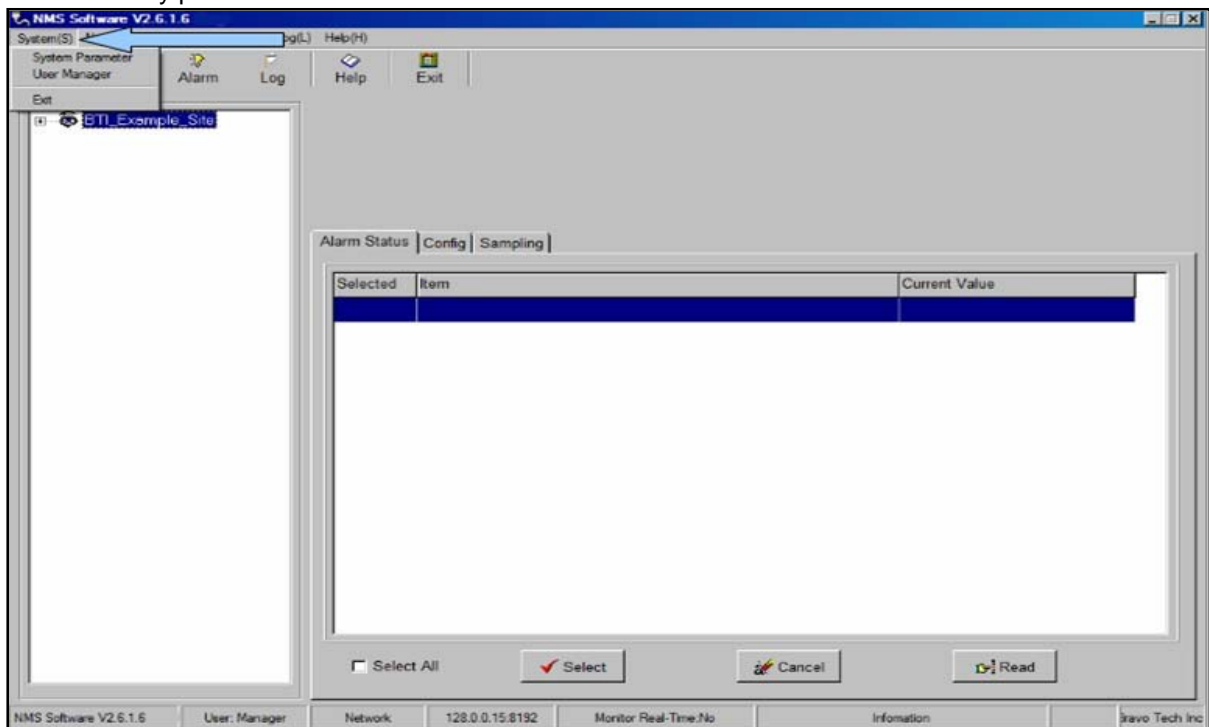
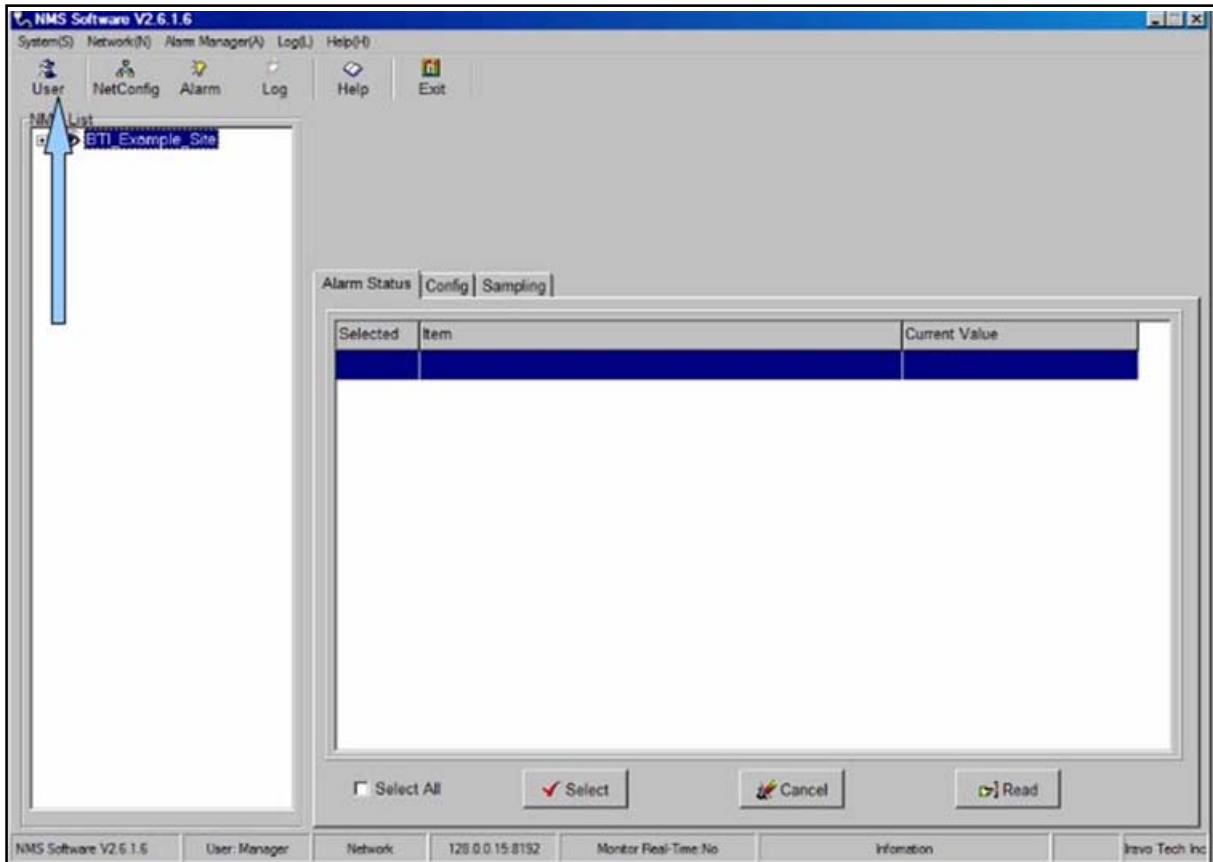

Figure 4-34. System (S) Drop Down Menu
Figure 4-35. User Account Icon
Main access to the NMS software configuration is through the *System(S)* drop down on the Menu bar as shown in **Figure 4-34**. User accounts may also be accessed through the User Icon on the Command toolbar as shown in **Figure 4-35**. The software system configuration includes the ability to access the
1. Using either the System(S), **Figure 4-34** or the User icon, **Figure 4-35**, access the User Manager screen, **Figure 4-36**.